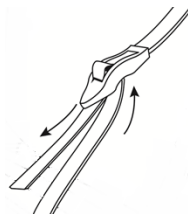

Fig. 7
- A. Thread a trunk strap into a buckle, as pictured below. Repeat for remaining buckles. (Fig. 7)